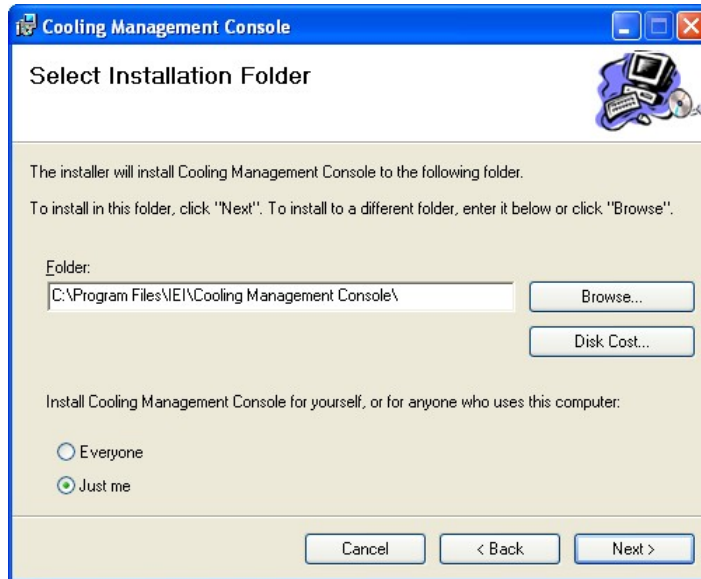

Figure 6-2: Select Installation Folder
Step 4: Select a folder for Cooling Management Console installation in **Figure 6-2**. Click **Next** to continue.